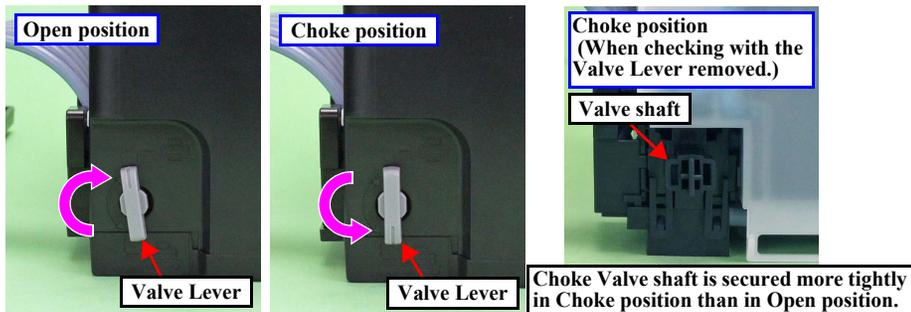

Figure 3-3. Opening/closing the Choke Valve
- The Valve Lever is on the position shown below (the Choke Valve is closed). (See Figure 3-3.)